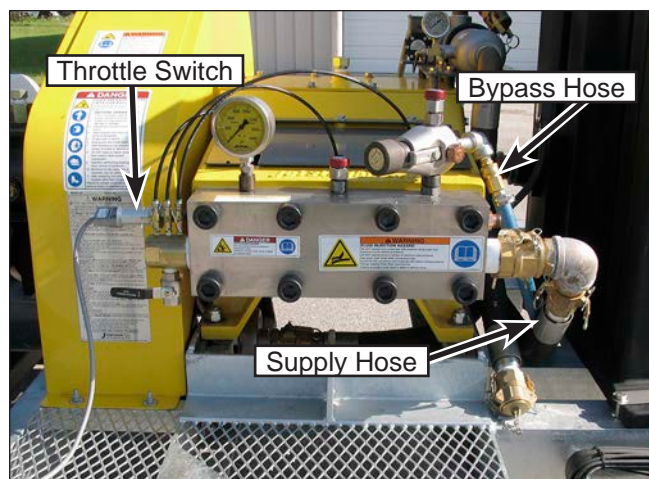

Figure 125: Pump Removal Preparation.
2. Remove the bypass hose and supply hose (Figure 125). If the supply hose is connected to the secondary filter, disconnect it from the filter.